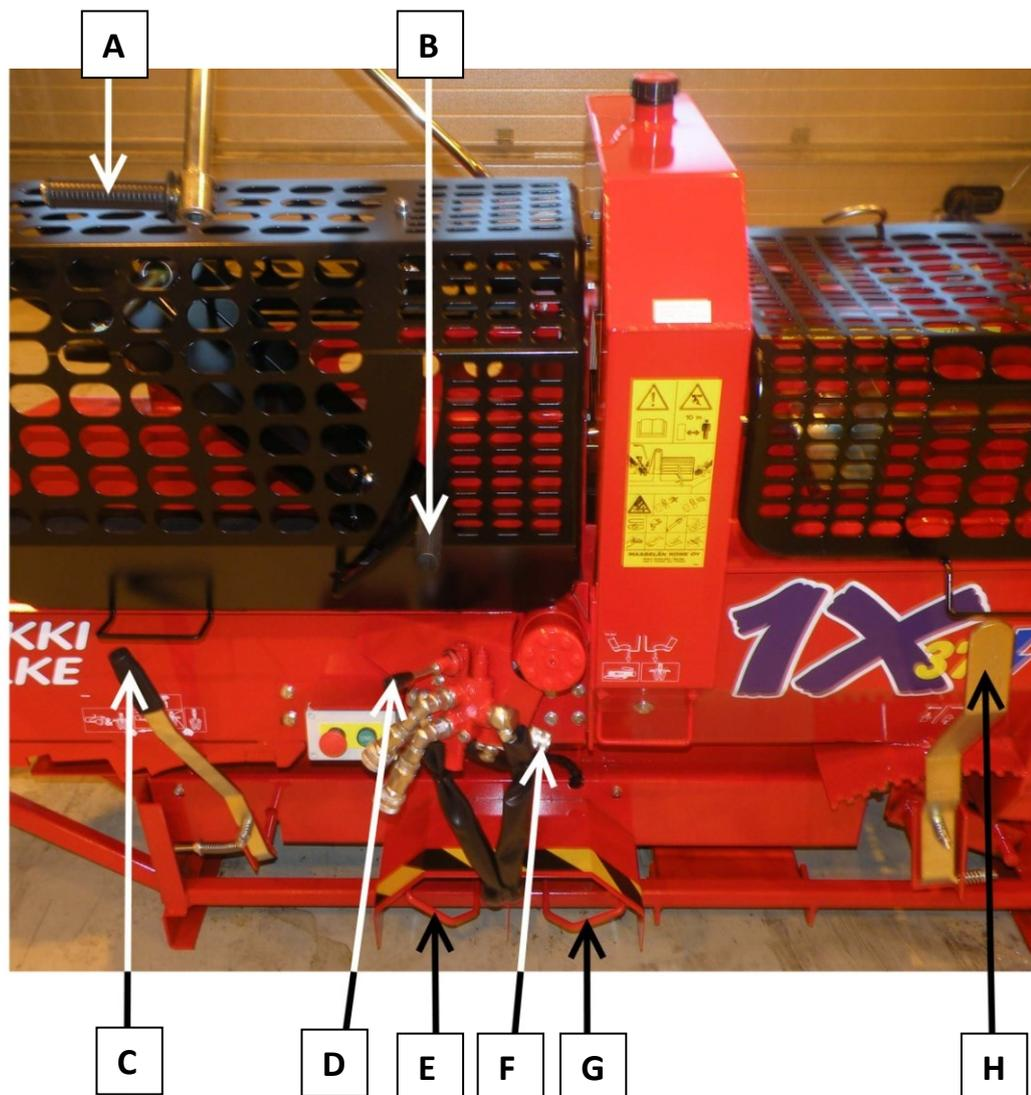

Figure 19. The control devices of the machine (basic model)
The control devices of the Hakki Pilke 37 log splitter (basic model) are presented in Figure 19. The names and functions of the control devices are as follows:
1. To adjust the length of the wood to be cut, set the operating lever C (Figure 19) to the Stop position, which enables you to open the guard of the splitting blade.
If the Hakki Pilke 37 log splitter is equipped with a pivoting output conveyor, the belt of the output conveyor is driven by a hydraulic motor. To change the speed of the belt, use the adjuster **F** shown in **Figure 19**. The following describes how the conveyor can be turned laterally by using the turning lever **A** and handle **B**: